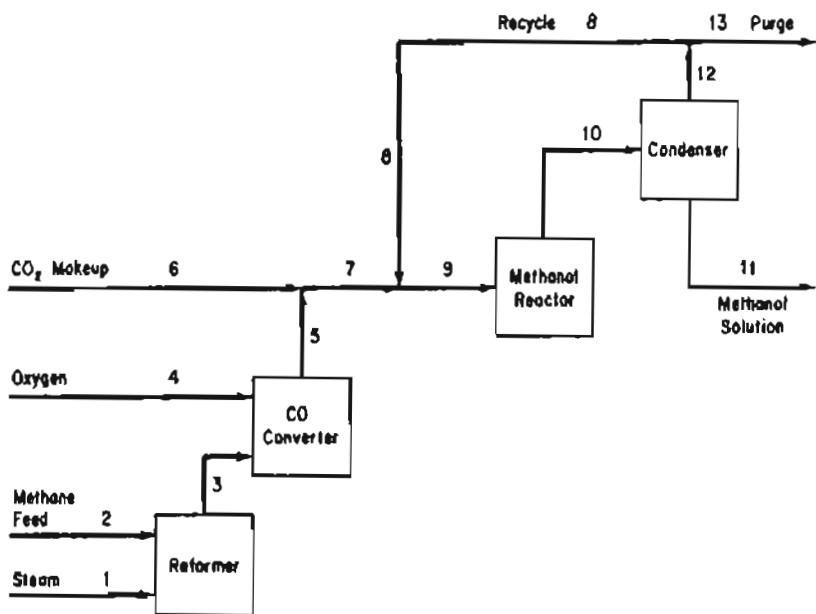

Figure P12.25
- ***12.25 A process for methanol synthesis is shown in Figure P12.25. The pertinent chemical reactions involved are
Because the methane feed contains 1% nitrogen as an impurity, a portion of the recycle stream must be purged as shown in Figure P12.25 to prevent the accumulation of nitrogen in the system. The purge stream analyzes 5% nitrogen.